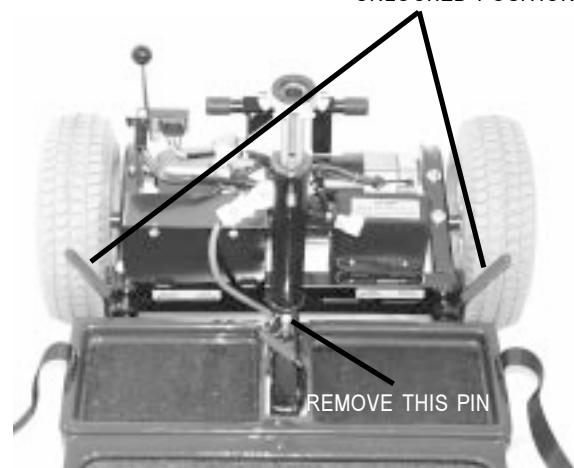

FIGURE 15. FRAME CAM LOCK LEVERS
9. Remove the ball detent pin from the frame. See figure 15.
10. Move the cam locks to the unlocked, vertical position. See figure 15.